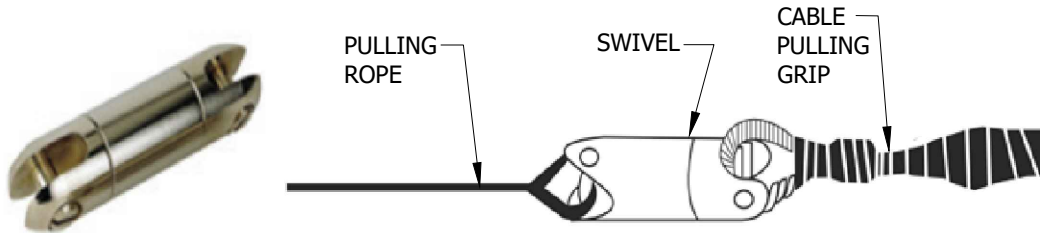

FIGURE 8
- (D) FIBER SHALL BE RACKED ON ITS OWN RACKS AND NOT WITH ANY ENERGIZED CONDUCTORS. IF THERE IS ANY FIBER OPTIC IN THE UNDER GROUND FACILITY ALREADY AND NOT RACKED, THAT FIBER SHALL BE RACKED BEFORE ANY NEW FIBER CAN BE INSTALLED IN THE UNDER GROUND FACILITY. (a)
- (E) WHEN INSTALLING LONG RUNS, COMMUNICATE AND MONITOR ALONG THE PATH OF INSTALLATION. FIBER CABLES CAN AND WILL JUMP FROM UNMONITORED PULLEYS. THE MINIMUM CREW SHOULD HAVE ONE PERSON MONITORING THE PULLING EQUIPMENT, ONE MONITORING THE SUPPLY REEL, AND ONE COORDINATING ALL INVOLVED IN THE INSTALLATION.
- (H) ALWAYS ROLL CABLE OFF THE SPOOL INSTEAD OF SPINNING IT OFF THE SPOOL END. FOR EVERY TURN ON THE SPOOL, SPINNING OFF THE END WILL PUT A TWIST IN THE CABLE. NEVER TWIST THE FIBER CABLE AS THIS WILL STRESS THE FIBERS.
- (J) THE FIGURE 8 TECHNIQUE IS USED TO PREVENT CABLE FROM TWISTING.
- 1. DIVIDE LONG PULLS INTO SEVERAL SHORTER PULLS AND STORE IN FIGURE 8 SHAPES AT INTERMEDIATE LOCATIONS.
- a. PLACE CABLE ON THE GROUND IN A FIGURE 8 PATTERN THAT IS AT LEAST 10-20 FEET IN LENGTH.